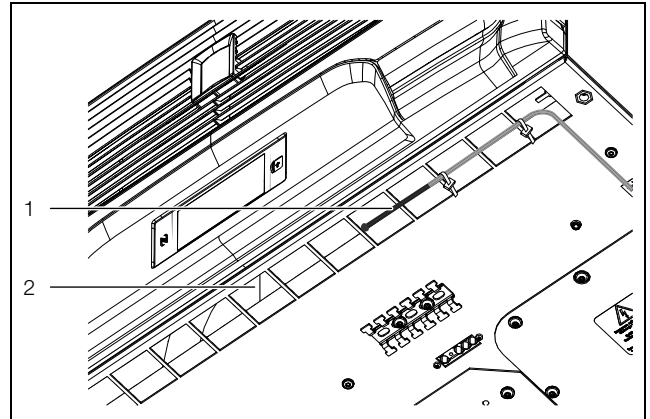

Fig. 20: Temperature sensor in front of cold air outlet
- Attach the temperature sensor in front of the cold air outlet from the cooling unit, in the centre (fig. 20).